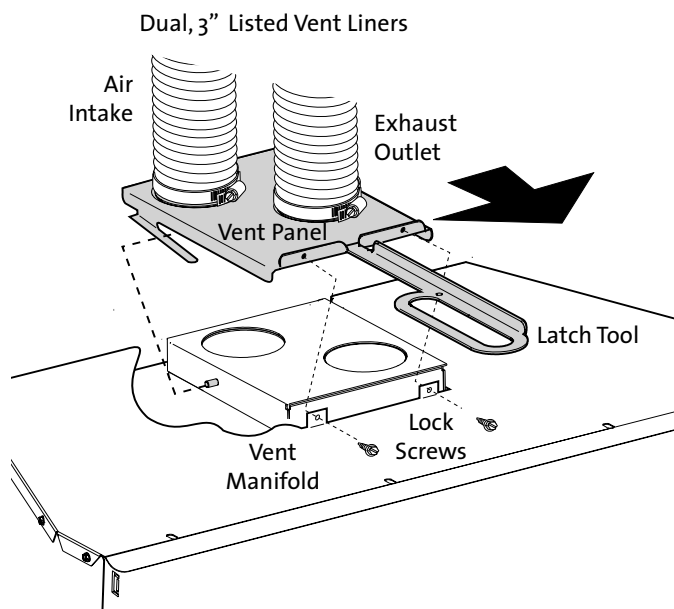

Figure 6.3. Vent Adaptor Panel connection.
1. Refer to fig. 6.3. Remove the two Lock Screws from the Vent Adaptor panel and detach it from the firebox. Keep the screws for reinstallation.